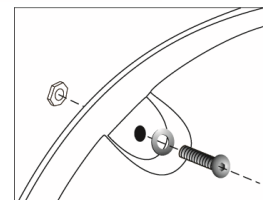

Figure 2
- 1. Place a 5/16 button head screw with a washer into each of the holes and attach to the flare using a nut placed on the inside. (Figure 2)